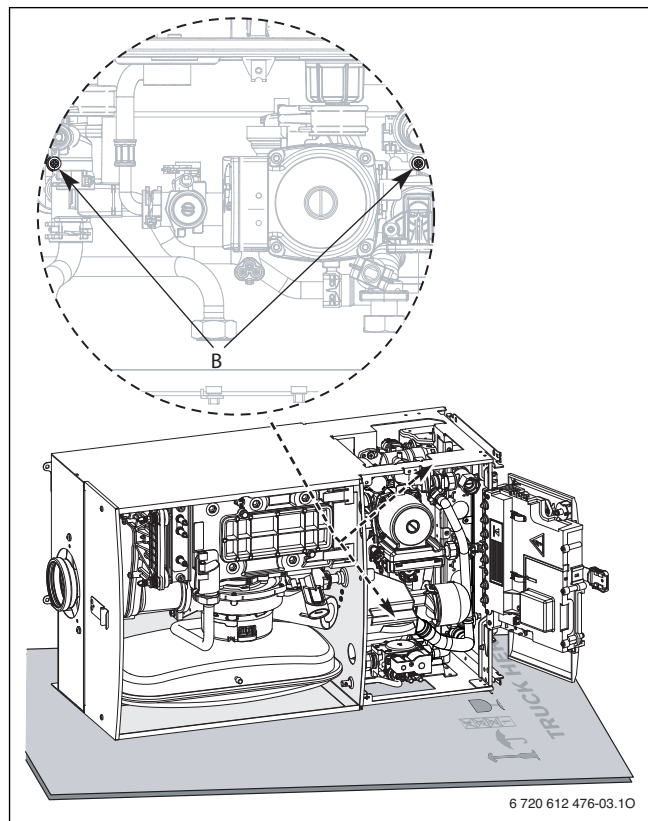

Fig. 3
- Re-tighten the clamping plate by re-tightening the two screws (B) as shown in Fig. 3.